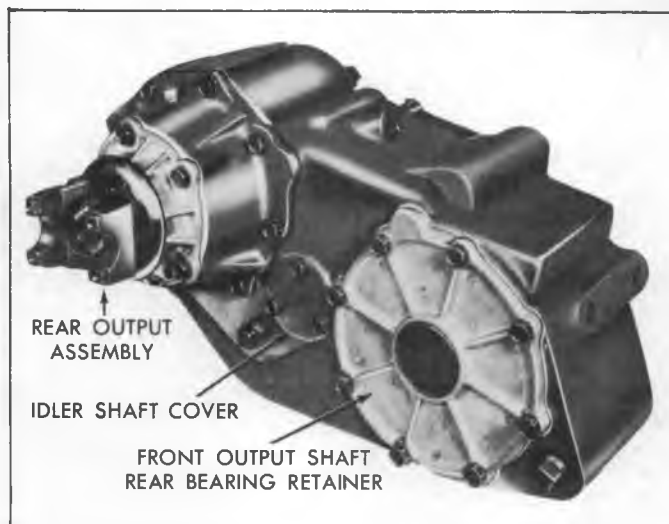

Fig. 2C--Rear View of Transfer Case
**DISASSEMBLY OF TRANSFER CASE (FIG. 1C)****Rear Output Shaft and Yoke Assembly (Fig. 2C)**
8. Remove pilot rollers (15), retainer ring and washer.